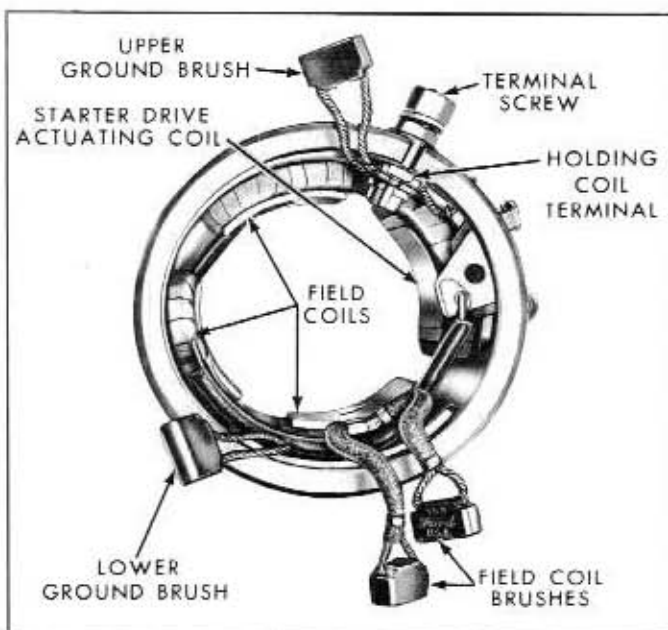

Fig. 10A-33—Field Coil Assembly—(60C-7691)
screws. Remove the lower brush. Refer to figure 10A-33.
8. Separate the holding coil terminal from the upper ground brush terminal. Refer to figures 10A-33 and 10A-35.